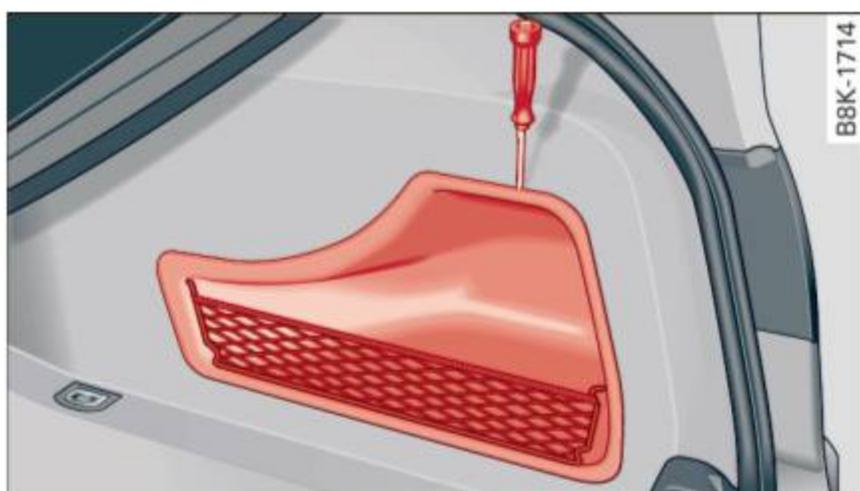

Fig. 157 Luggage compartment: opening the side trim
- ▶ Insert a tool such as a screwdriver ⇒ *page 225* or the emergency key into the right side of the upper gap ⇒ *fig. 157*.